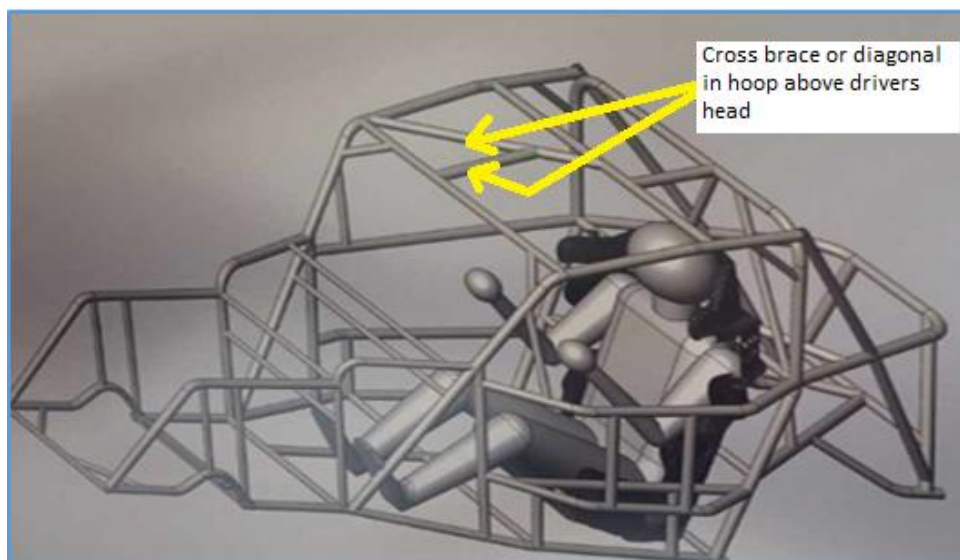

Figure 16
24.17 Cross-brace or diagonal tube is MANDATORY in the roof area. The cross brace tube must join the front hoop and the hoop over driver's head without impeding the exit hatch area. This is to minimise the size of the roof opening and help protect the driver from impact in the roof area (*Figure 16*).